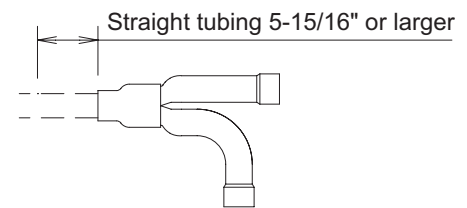

Fig. 2-31
- For branching tubes, install 5-15/16" or larger (including reducer) straight tubing up to the point where the tube branches (or after the point where the tubes join together). (Fig. 2-31)